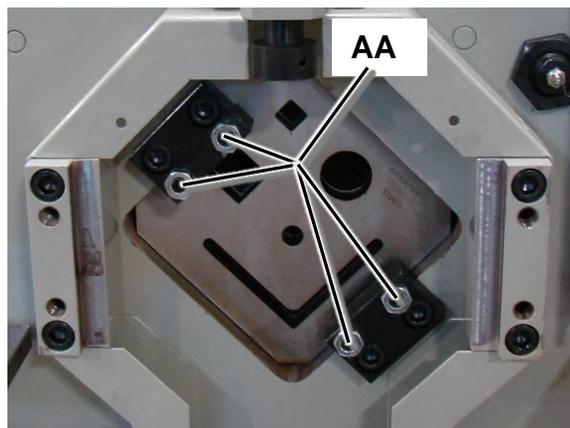

figure 10
2. Remove the hold down plate (plate shown removed in fig. 10)
4. Tighten the four adjusting screws (AA) firmly. Then loosen each screw one third of a turn. Lock in position by tightening the locking nuts.